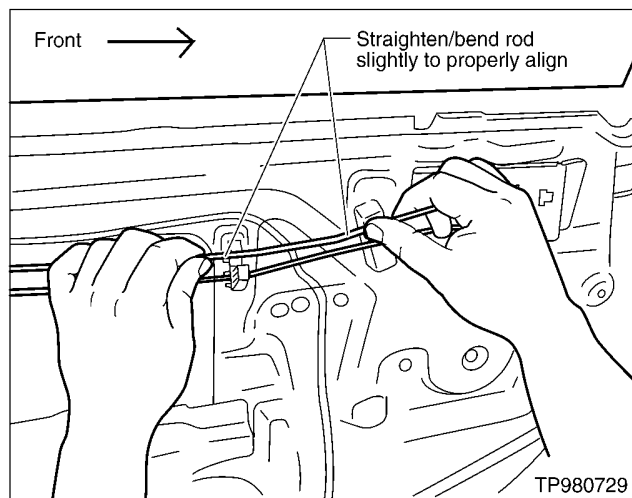
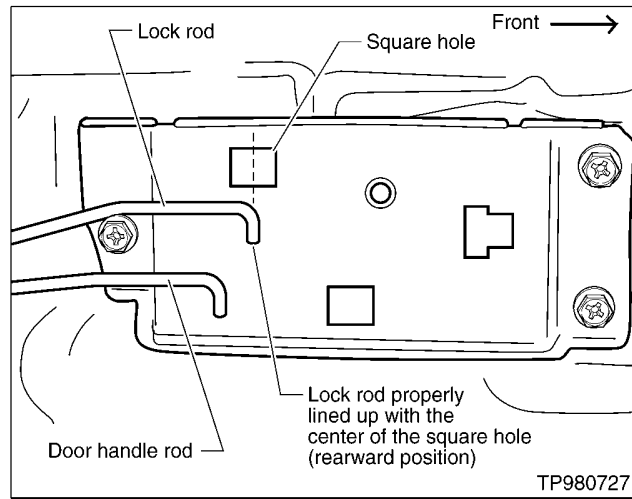

Figure 2
Figure 3
7. If the lock rod is too short and does not line up with the center of the square hole, slightly lengthen the rod by straightening/bending it (see Figure 2) until it is properly lined up with the center of the square hole in the door handle mounting plate (see Figure 3).